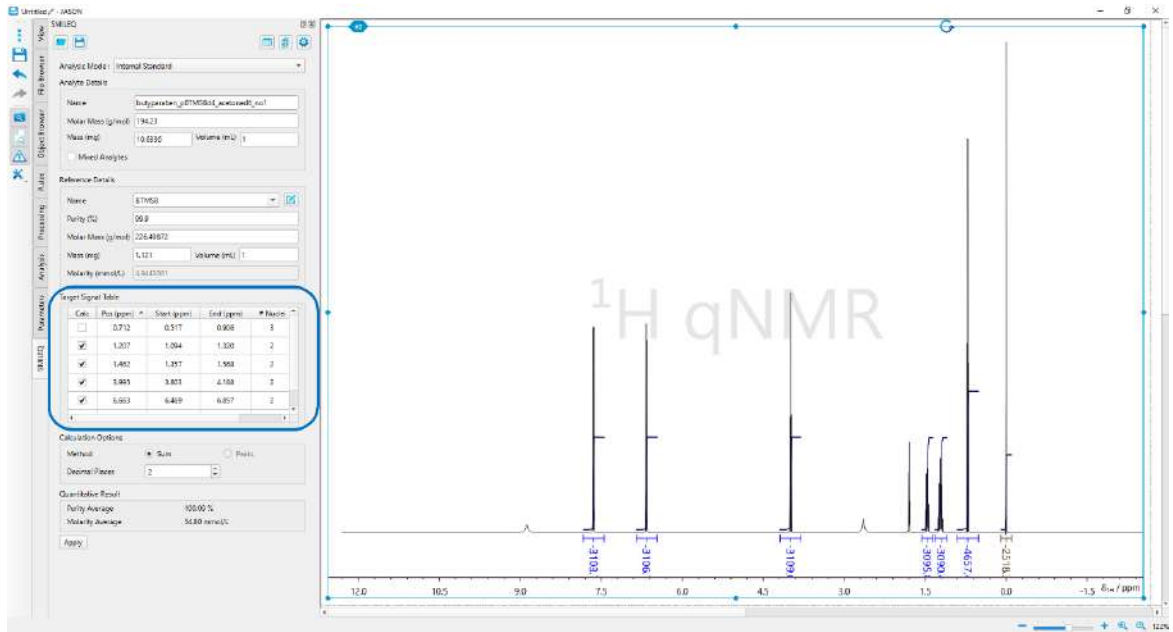

Figure 29: SMILEQ widget after confirming the target signal table
4. Confirm the “Target Signal Table” details. If necessary, manually (de)select the signal for the analyte or enter the nuclides information as shown in Figure 29. (see section 2.3 Target Signal Table Area)